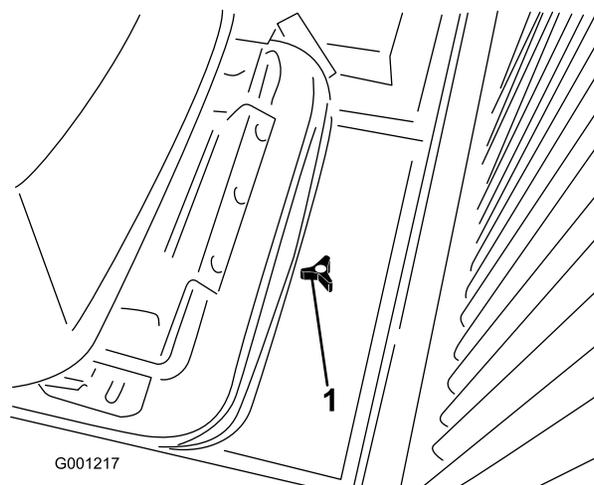

Figure 31
1. Loosen the knob and remove the access cover at the rear of the seat mounting plate (Figure 31).